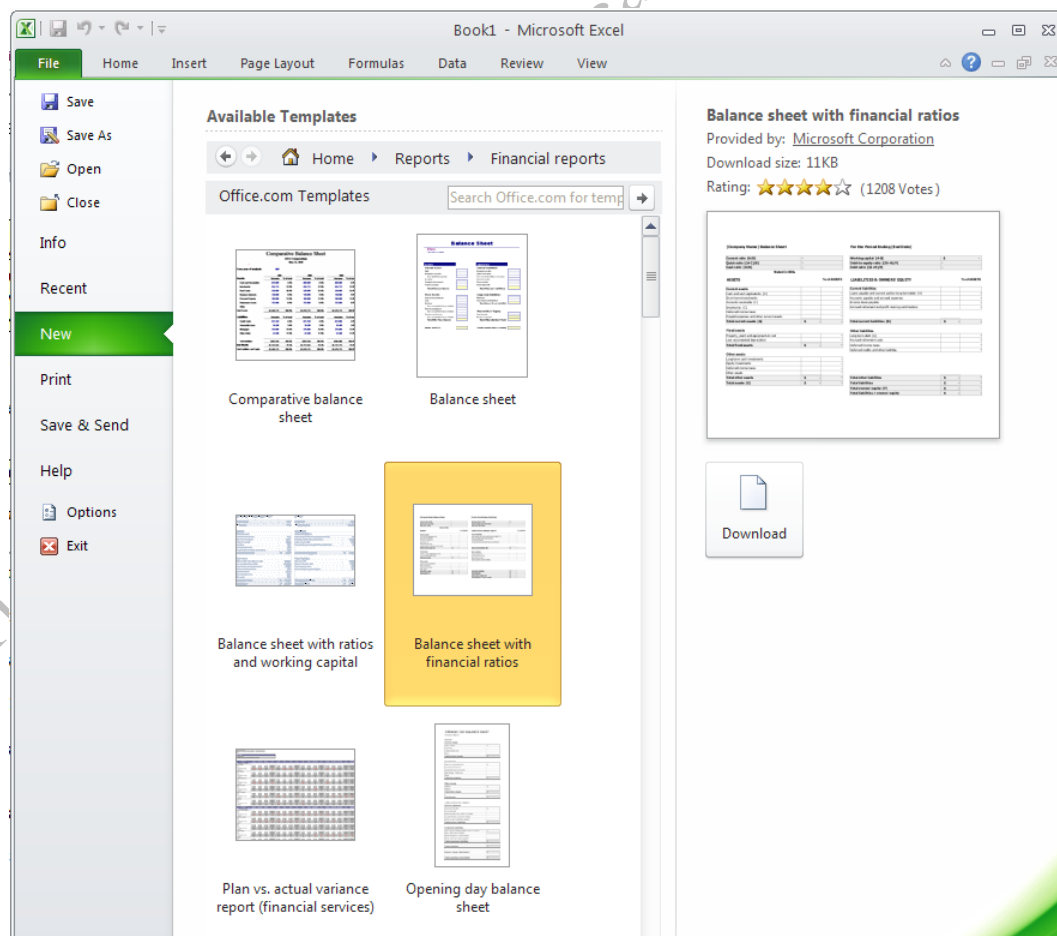

Figure 8.42. Templates are categorized in folders.
2. Click on several different reports. A larger image displays at the right of the screen along with a download button as shown in Figure 8.42.